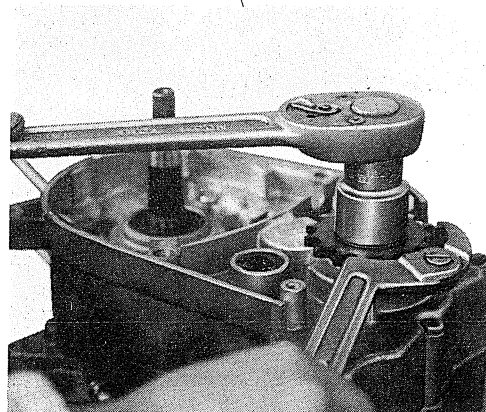

Fig. 3-13-2
- 2) Lock the drive sprocket with the flywheel magneto holding tool, and loosen the sprocket nut. (Fig. 3-13-2)